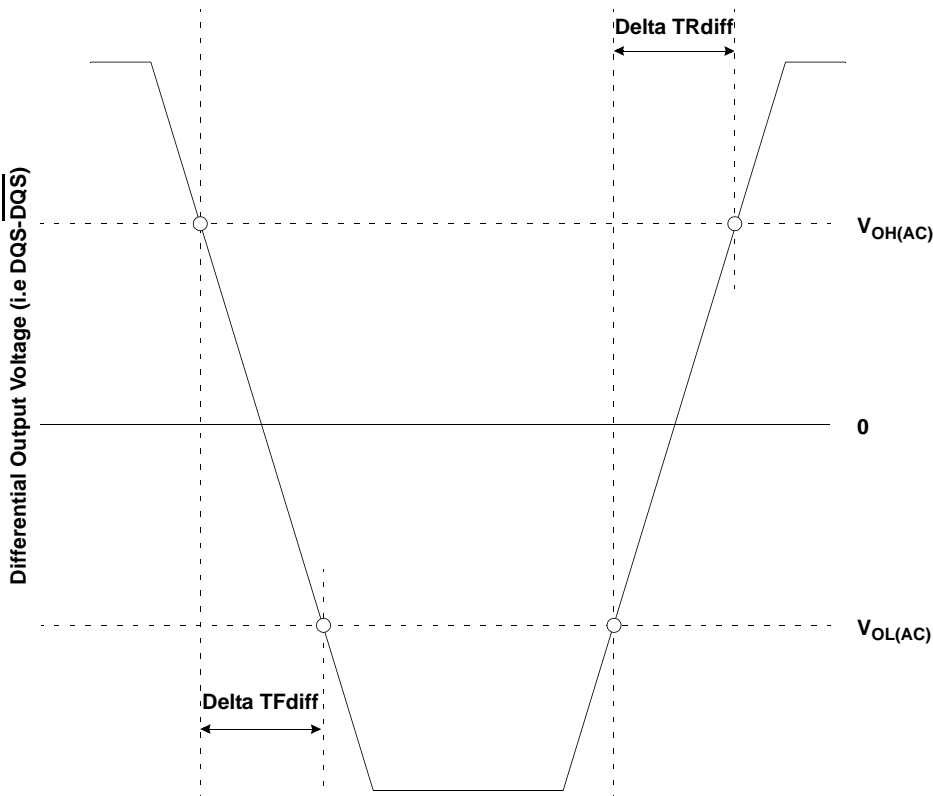

Figure 9. Differential Output Slew Rate Definition
With the reference load for timing measurements, output slew rate for falling and rising edges is defined and measured between VOLdiff(AC) and VOHdiff(AC) for differential signals as shown in Table 28 and Figure 9 Differential Output Slew Rate Definition.